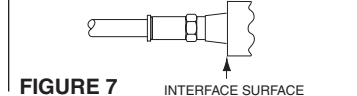

FIGURE 7
- (A) Using IT1000 tool: place connector assembly inside tool as shown. Squeeze handle until the plastic sleeve snaps into the connector. The plastic sleeve is in proper position when the connector is compressed to the indicator line marked on the tool. A white indicator will also be visible thru the tool "sight hole".
- (B) Using SNSUTL tool: align top of tool with the connector "U Groove", and push the connector and cable into the tool as shown. The cable should be held in place by the bottom of the tool, and the plastic sleeve should be seated into the "Clip Pocket". Squeeze the handles together until the plastic sleeve snaps into place. Seal the connector to the port using LRC's Thread Protectors: Using the TP Chart, determine which thread protector should be used for your port length. Push the larger diameter end, (see Fig. 5 or 6), over the F interface until seated against the interface surface, (see Fig. 7).